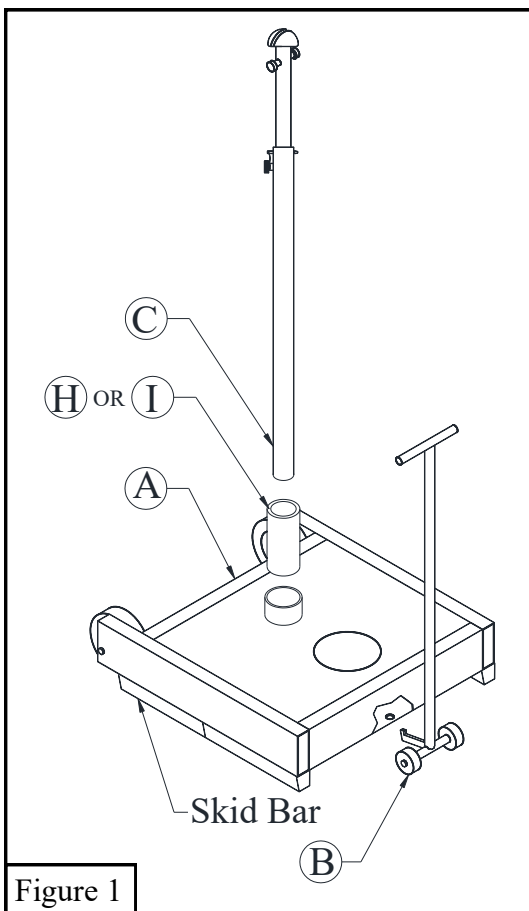

Figure 1
1. To move the *VB810 Base (A)* insert the hook on *VB810 Transport Dolly (B)* into the hidden hole located on the bottom of the *VB810 Base (A)*. Once engaged rotate the *VB810 Transport Dolly (B)* down to lift the front of the *VB810 Base (A)* off the ground and onto the back wheels. See Figure 1.
2. Insert *Center Post (C)* into the socket on the *VB810 Base (A)*. Depending on the size of pole that is used you may need to use the *optional VB340 Sleeve Adapter (H)* or the *optional VB354 Sleeve Adapter (I)*. See Figure 1.